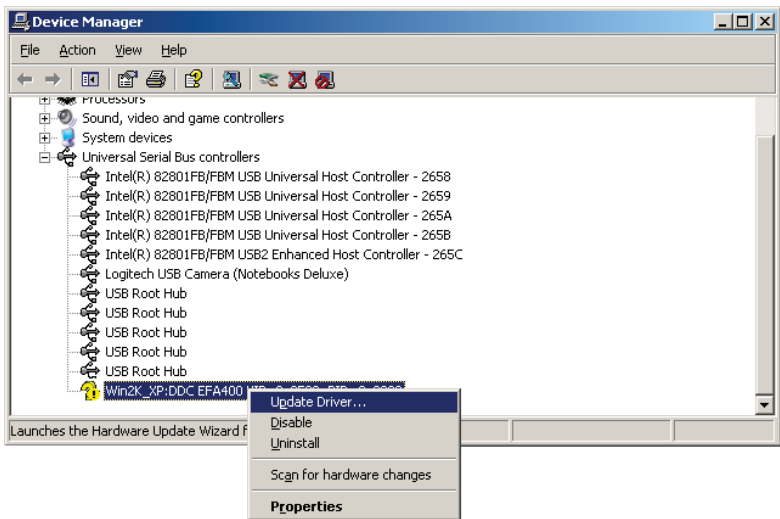

Fig. 56—Device Manager
4. Click the **Device Manager** button. The **Device Manager** window appears (Fig. 56).